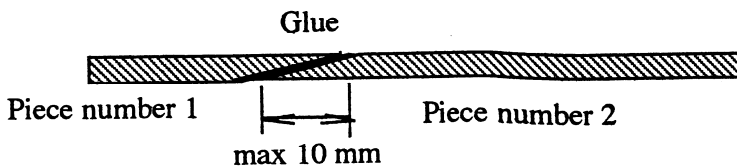

Figure 4d - Spliced Joint - a stronger joint than a butt joint.
d.) A spliced joint is a stronger joint than a butt joint (See Figure 4d). Side pieces (20 mm long) may also be used on the sides of this joint.